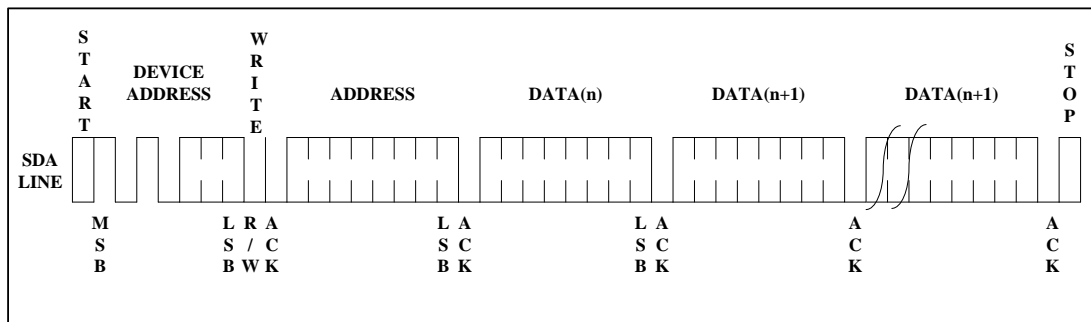

Figure 8. Page Write
**PAGE WRITE:** The 4K EEPROM is capable of an 16-byte page write. A page write is initiated the same as a byte write, but the microcontroller does not send a stop condition after the first data word is clocked in. Instead, after the EEPROM acknowledges receipt of the first data word, the microcontroller can transmit up to seven more data words. The EEPROM will respond with a "0" after each data word received. The microcontroller must terminate the page write sequence with a stop condition (see **Figure 8**).